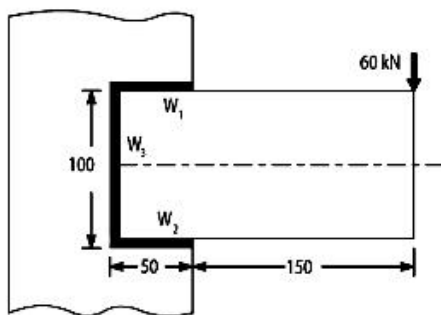

Fig.3
b) A welded connection, as shown in Fig.3 is subjected to an eccentric force of 60kN in the plane of the welds. Determine the size of the welds, if the permissible shear stress for the weld is  $100 \text{ N/mm}^2$ . Assume static conditions.